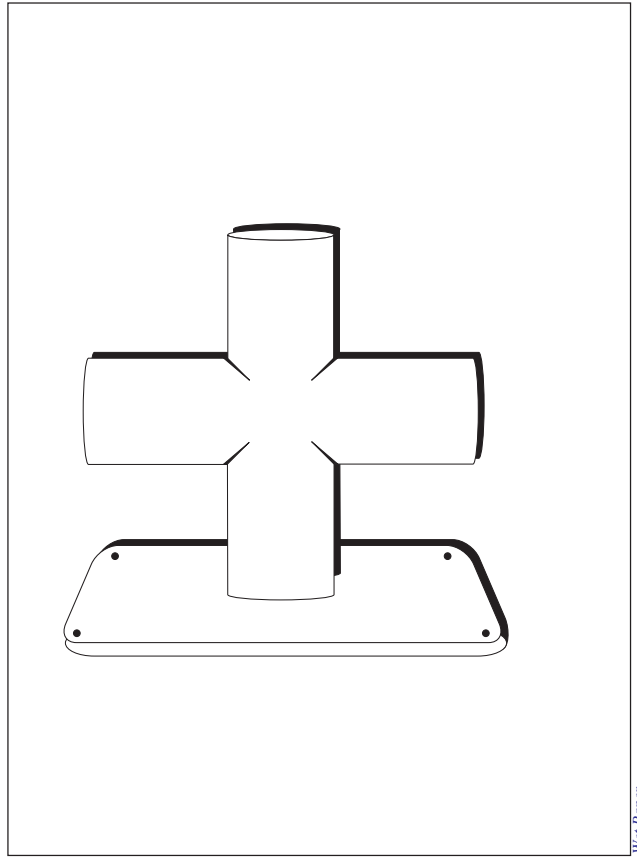

Figure 22.4 A cross bollard or T bollard
2. Redraw Figure 22.4 in your notebook and describe how you would tie a rope to this bollard.